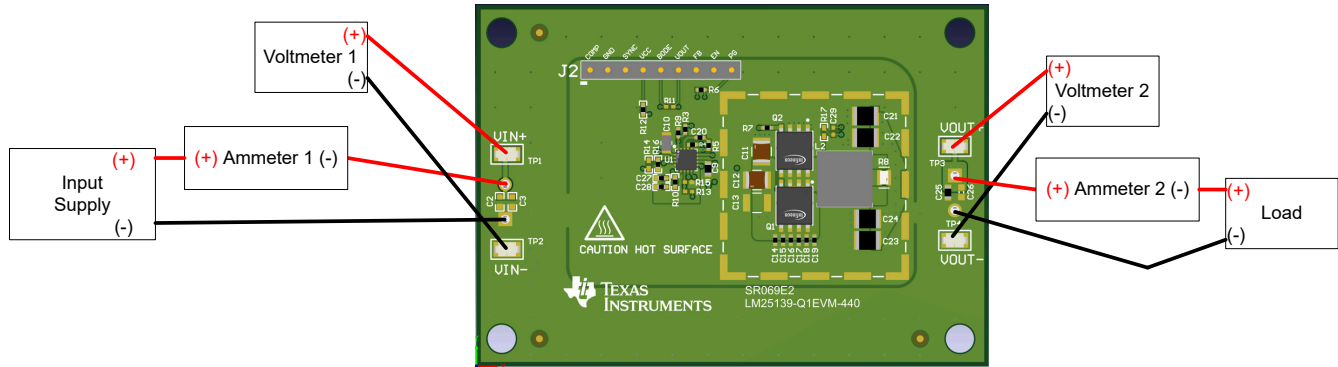

Figure 2-1. EVM Test Setup
Referencing the EVM connections described in Table 2-1, the recommended test setup to evaluate the LM25139-Q1EVM-440 is shown in Figure 2-1.
- Make sure the input source is initially set to 0V and connected to the VIN+ and VIN– connection points as shown in Figure 2-1. An additional input bulk capacitor is recommended to provide damping if long input lines are used.